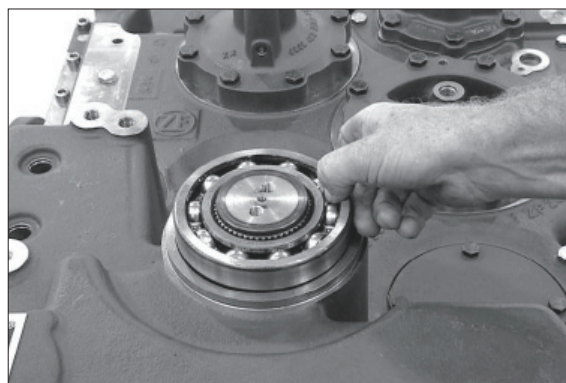

Figure 283
- (7) Install the ball bearing (figure 283) and